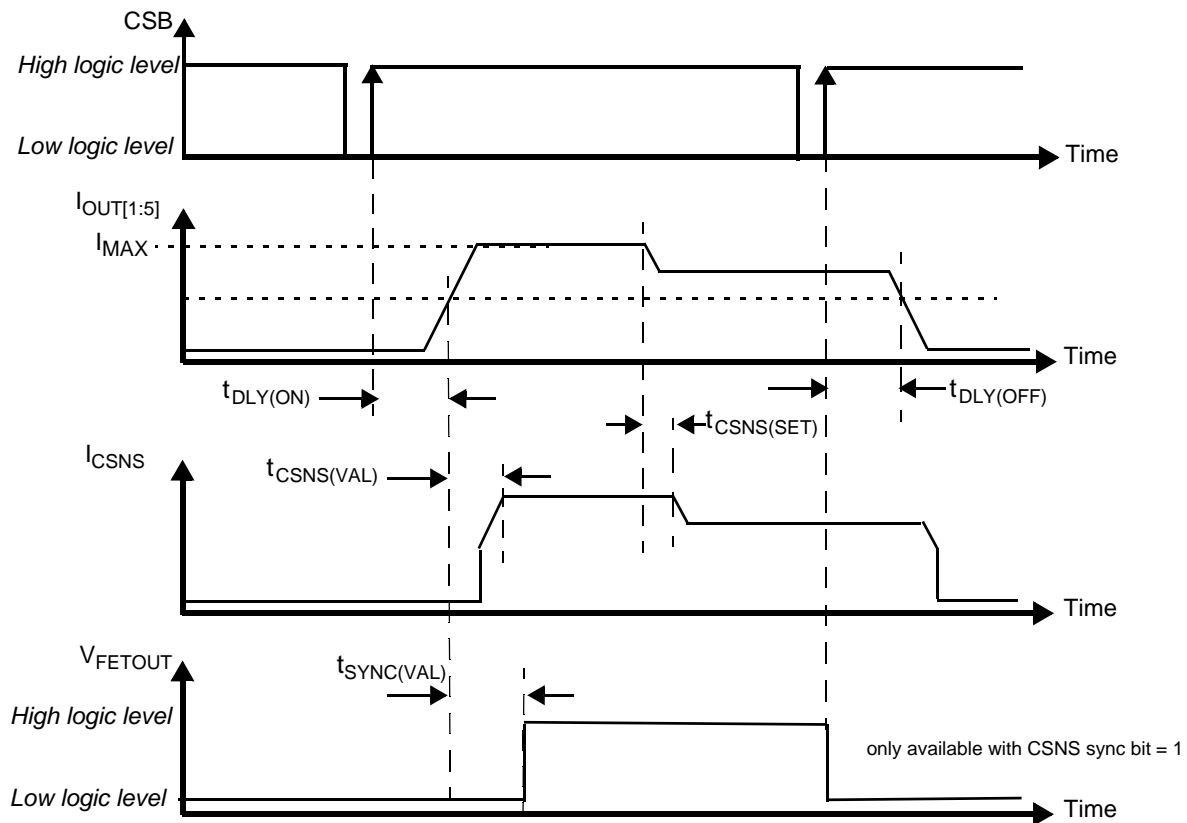

Figure 7. Current Sensing Time Delays
37. Not production tested. See Figure 7. Current Sensing Time Delays.
38. Not production tested. See Figure 7. Current Sensing Time Delays.